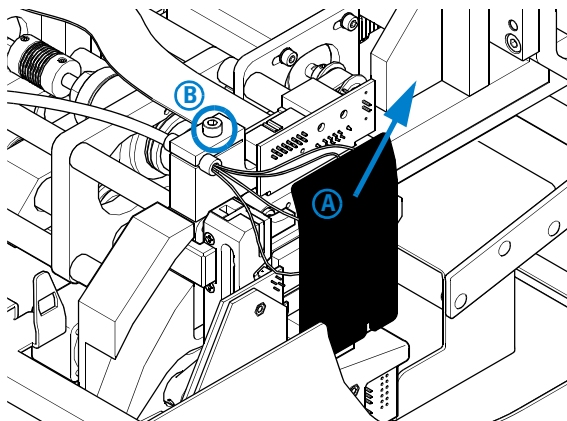

Figure 44
- 4 Remove the capillary cover (A) and open the thumb screw of the strain relief (B). See Figure 44.